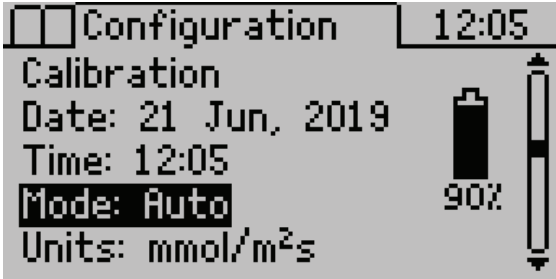

Figure 6 Toggle between Auto and Manual modes
2. Press **MENU** to navigate to the Configuration tab (Figure 6).
3. Use the **UP** and **DOWN** arrows to navigate to **Mode** (Figure 6).